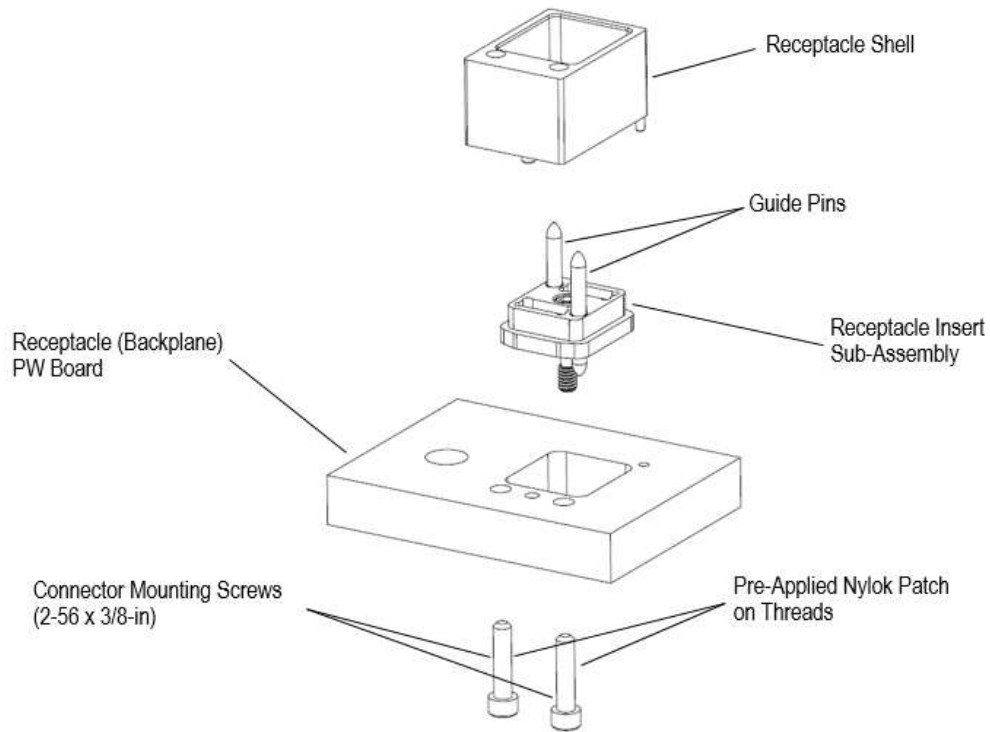

Figure 9
F. Receptacle (Backplane) Connector (Figure 9)
Orient the insert sub-assembly and shell to the backplane PWB as shown in Figure 9. When placing them on the PWB, make sure the receptacle shell locating posts are started into the corresponding holes before securing the receptacle shell to the board.